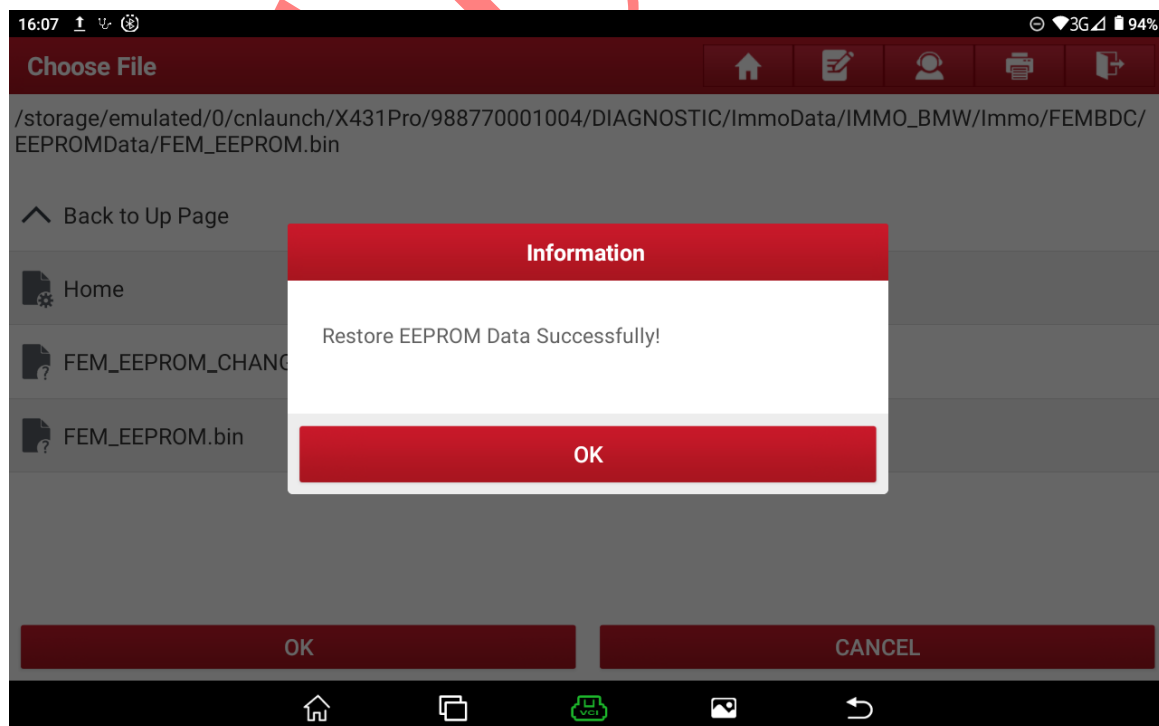

Figure 30
30. After EEPROM data is successfully written, install the EEPROM chip back onto the FEM board and select **“OK”**, as shown in Figure 30.